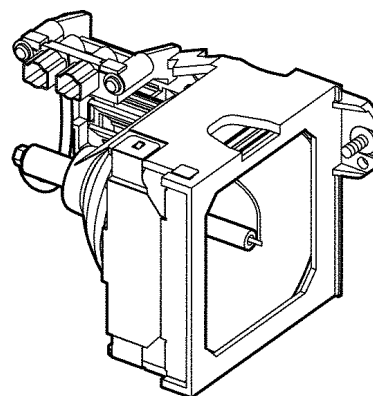

Fig.3
- Because the high pressure lamp involves a risk of explosion, never touch the lamp wire lead during the service. (See Fig. 3)